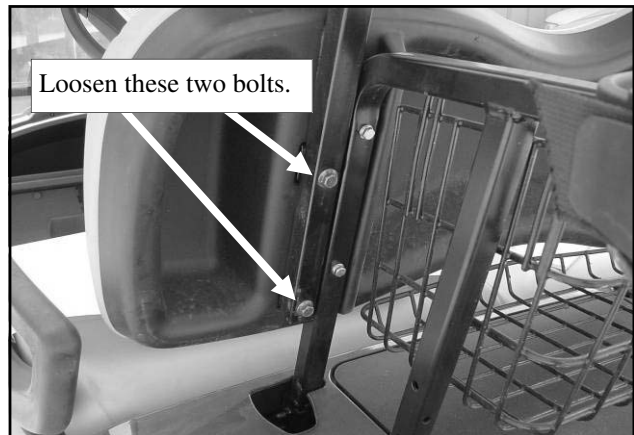

Fig. 1.5a (view from left side)
1.5 Per fig. 1.5a, loosen the two larger outboard bolts. Loosen as much as possible, but do not remove completely to create the gap shown in Figure 1.5b. This 1/4" gap will receive the rear mounting bracket on the side frame assembly.